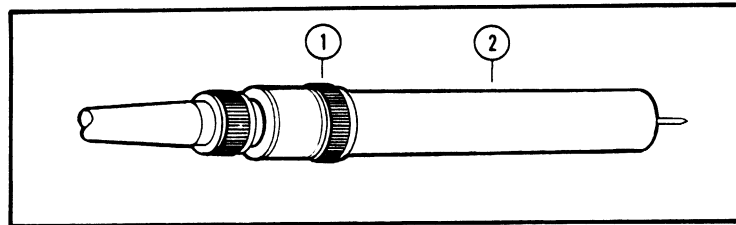
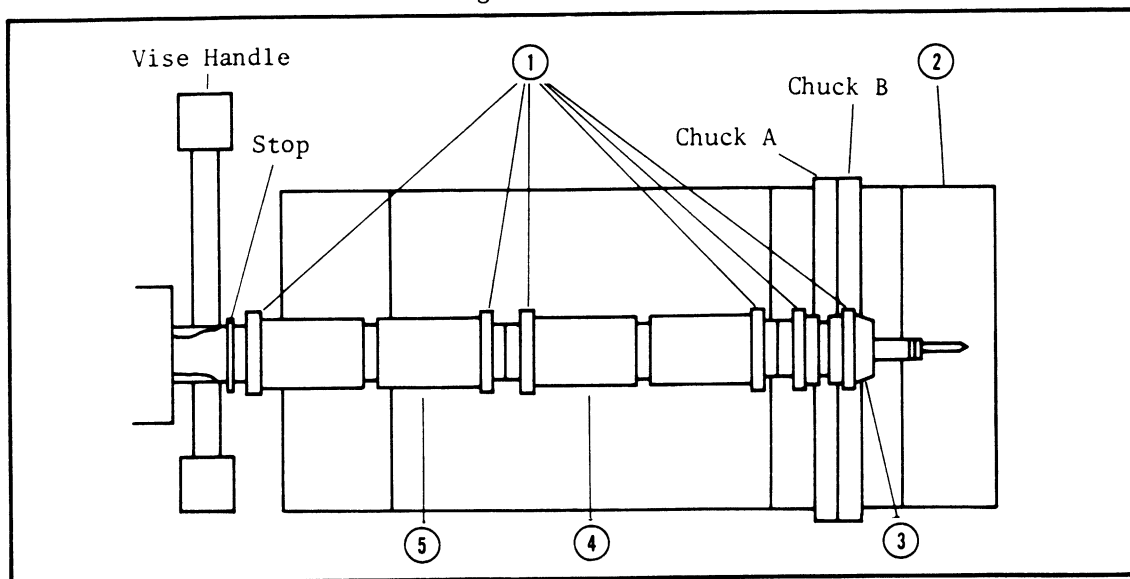

Figure 8-16. Probe.
Figure 8-17. Probe Assembly.
8-85. To access the A51 and A52 boards inside the probe, use the procedure given below. Refer to Figures 8-16 and 8-17.
1. Loosen the coupling nut labelled ① in Figure 8-16.
2. Unscrew the barrel ②, and remove it from the probe. The 3-section brass housing secured by six phosphor-bronze rings will be visible.
3. Place the probe in the vise ② as shown in Figure 8-17. The ring closest to the probe tip must be inserted into chuck B,
8-87. To reassemble the probe, use the procedure given below. Refer to Figure 8-17.
2. Slide the section labelled ⑤ in Figure 8-17 onto the probe until flush against the stop.
5. Repeat steps 2 through 4 for the remaining two sections, ③ and ④.